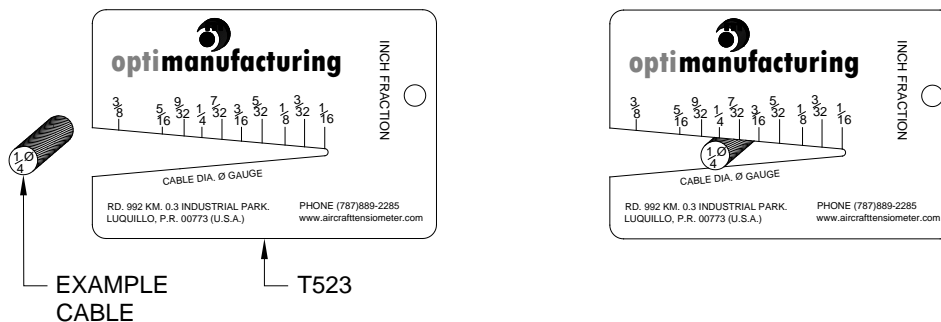

Figure 4-Cable Size Gauge
- a. Confirm cable size being tested using the supplied Cable Size, Gauge, P/N T523. (See Figure 4)